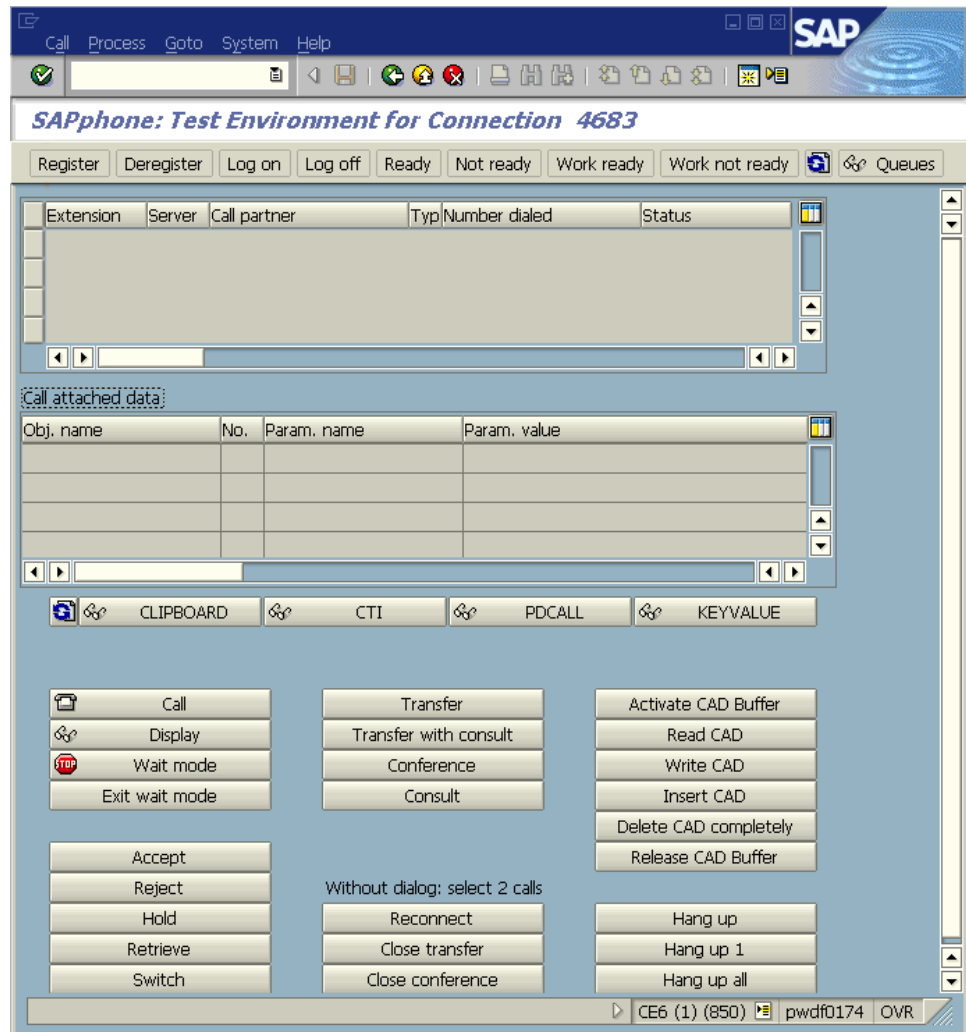

Figure 22: SAP: SAPphone Test Environment Screen
1. In SAP, open the SAPphone Test Environment (SPHT) screen. (See Figure 22.)
2. On the SPHT screen, click Log on to log on to the Position that the switch requires. See Figure 22 for further reference.